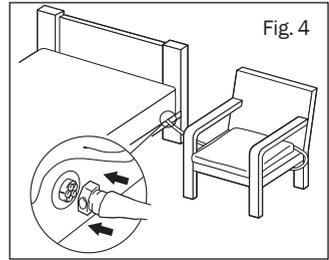

Fig. 4
- b) To use the cushion whilst the mattress is operating, simply attach the air supply hose from the cushion to the connection port on the side of the head end of the mattress by matching up the alignment markings and pushing together the CPC connectors until they **click into place** (Fig. 4), increasing the comfort control setting to SEATED. The mattress and cushion will operate simultaneously, allowing the simple transfer of the patient between the bed and chair. NB. When the patient is in bed, return the comfort setting to the mattress settings of SOFT, MEDIUM or FIRM.